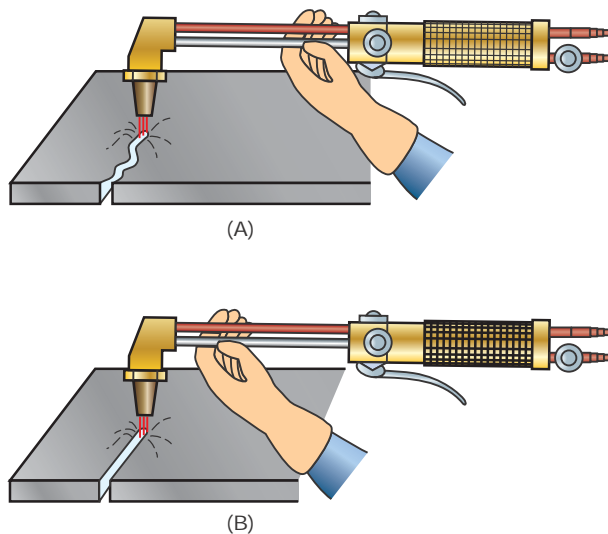

FIGURE 21-28 It is easier to make straight, smooth cuts if you can brace the torch closer to the tip, as in cut (B).
- **Hot surfaces:** As you continue making cuts to complete the part, the part will begin to heat up. Depending on the size of the part, the number of cuts per part, and the number of parts being cut, this heat can become uncomfortable. You may find it necessary to hold the torch further back from the tip, but this will affect the quality of your cuts, Figure 21-28. Sometimes you might be able to rest your hand on a block to keep it off the plate. Another problem with heat buildup is that it may become high enough to affect the equipment's hydraulic or other systems. Planning your cutting sequence and allowing cooling time will help control this potential problem.